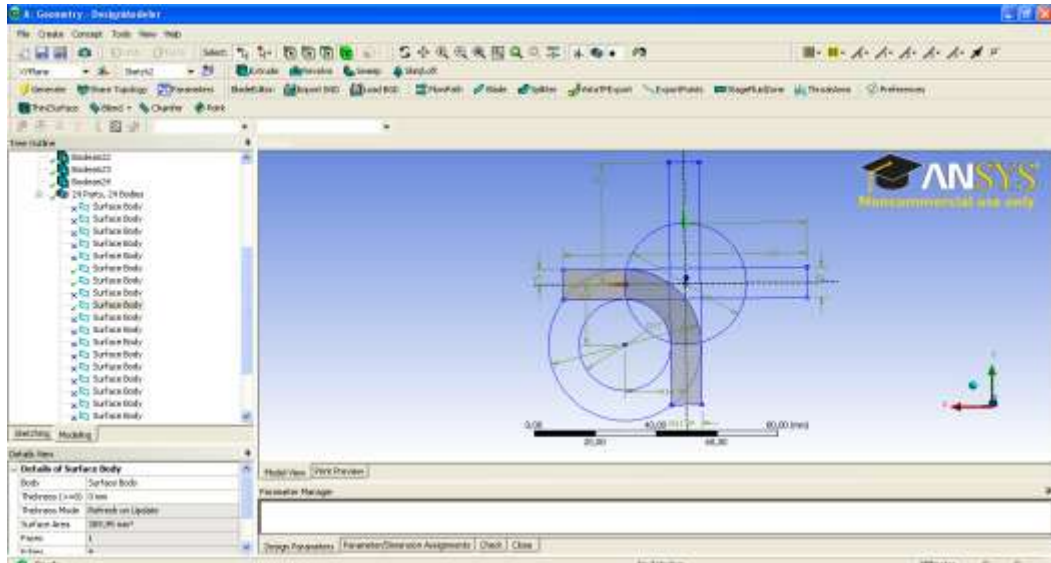

Fig. 5. Suppression of unused surfaces under Parts.
7. Put the unused surfaces to **Suppress** under **Parts** (fig. 5). Right click and suppress.